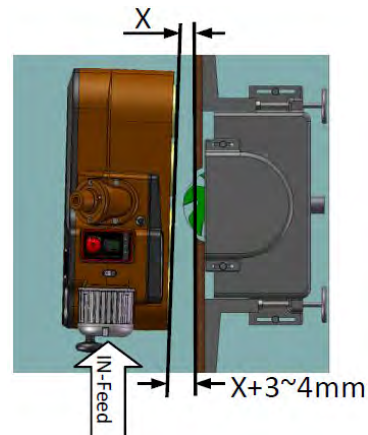

Fig. 35: Angle of inclination for contact pressure of the workpiece at the stop
Step 3: The workpiece must be stable at the stop during feeding. The rollers should be at a small angle to the stop to ensure sufficient contact pressure (Fig. 35).